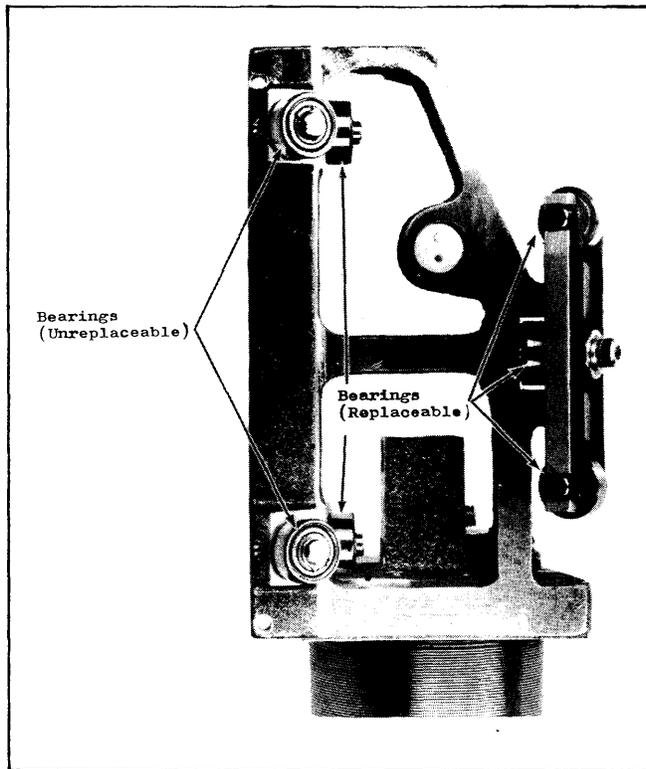

Figure 5-11. Carriage Assembly
- a. Only five of the seven bearings can be replaced, see figure 5-11. If the two unreplaceable bearings seem to be bad then the carriage assembly must be replaced.